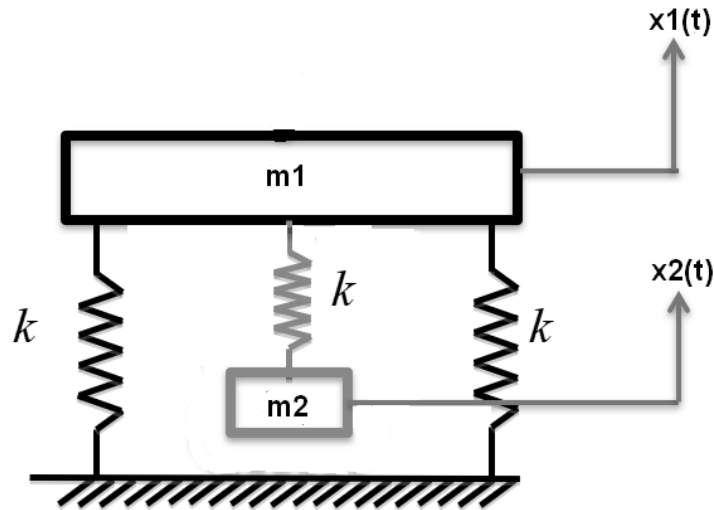

Figure Q3
3. Consider a two-degree of freedom system shown in **Figure Q3**, given mass,  $m_1 = m_2 = 5 \text{ kg}$  and the spring stiffness,  $k = 20 \text{ N/m}$ , you must: